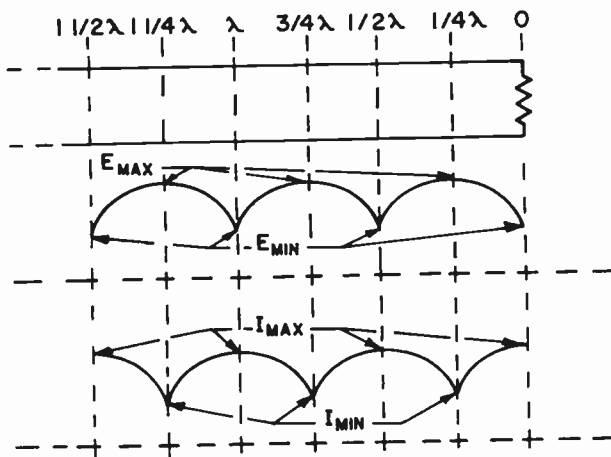

FIG. 17-31. I AND E GRAPHS OF STANDING WAVES ON A TRANSMISSION LINE.
**STANDING WAVE RATIO.** Fig. 17-31 illustrates the voltage and current graphs of a full-wave antenna. If the antenna were made longer, the graph would simply repeat itself along the full length of the antenna. The voltage maximums and minimums repeat themselves at half-wave intervals. The graph does not change with time and because of this, we refer to the waves as "STANDING WAVES". These standing waves result in maximum radi-
on an antenna. This is shown in Fig. 17-31. Fig. 17-31B shows a standing wave graph of the voltages taken at points along the transmission line. The current graph is shown in Fig. 17-31C. Note that the maximums and minimums repeat themselves at half-wave intervals. If the transmission line is terminated properly in its characteristic impedance, then the voltage and current will both be constant values all along the line and no standing waves will exist.